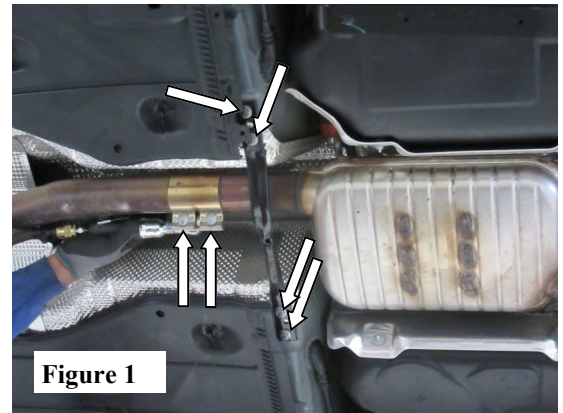

Figure 1
1. Loosen (2) bolts on cross-brace and drop-down for access to band clamp bolts. Loosen and remove (2) 13mm bolts on band clamp and slide clamp towards front of vehicle. (See Fig. 1)